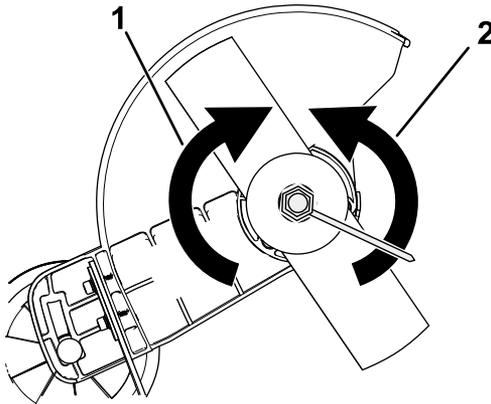

Figure 10
3. Remove the blade nut by turning it counterclockwise using a wrench (Figure 10).
6. Tighten the blade nut by turning it counterclockwise with a wrench (Figure 10).